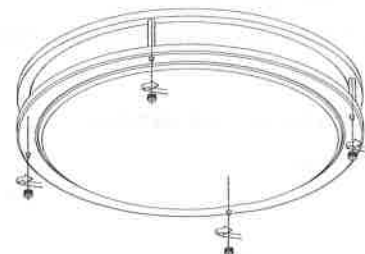

Fig. 6
7. Tighten 4 screw clockwise (figure 6).